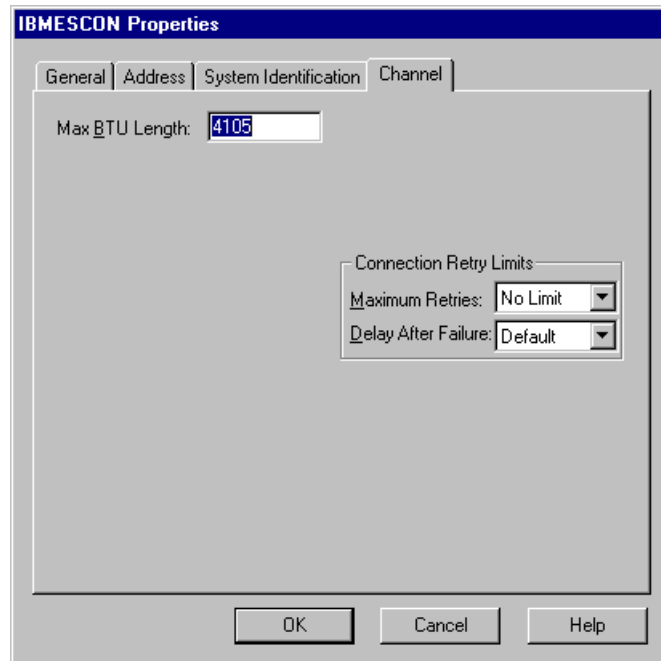

Figure 8-15. Channel Connection Properties
6. Click on the **Channel** Tab (Figure 8-15). Set the parameters on the Channel Screen as follows: